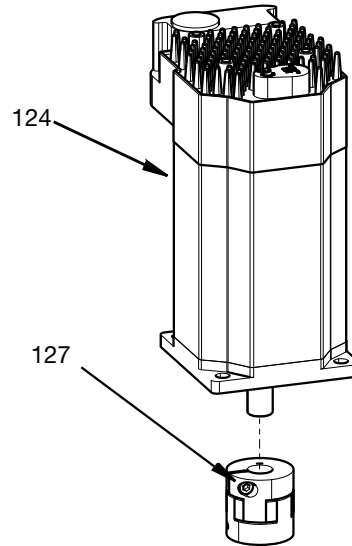

FIG. 50
7. Loosen the upper rotary coupling (127) clamp screw with a 2.5 mm allen wrench. NOTE: Do not use ball end allen wrench.
8. Remove the rotary coupling (127) from the motor shaft. See FIG. 50.